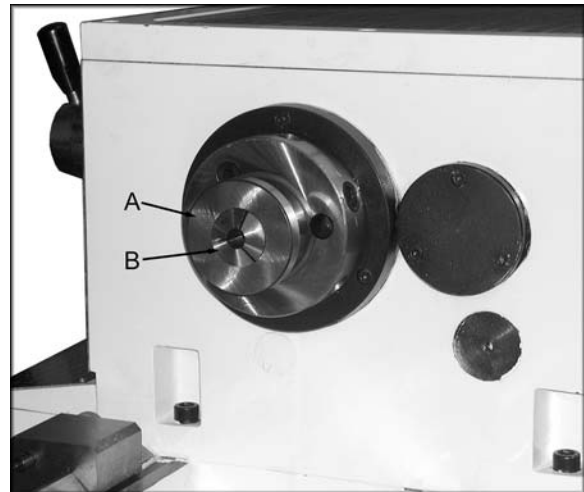

Figure 4
11. Insert the collet sleeve into the spindle nose (A, Figure 4).
12. Insert a collet (B, Figure 4).